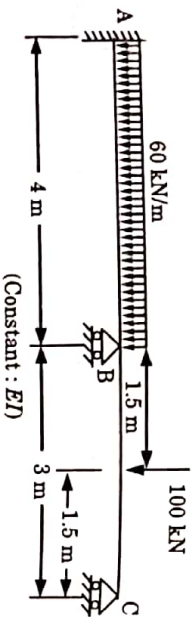

Fig. 1.
a. Analyze the following continuous beam Fig. 1 using the flexibility method of matrix analysis. Draw BMD.